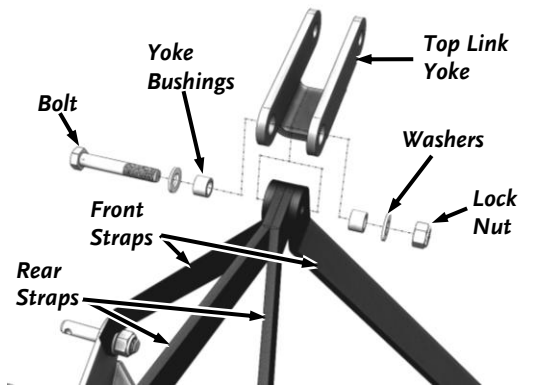

Figure 6
3. Assemble the Top Link Yoke to the Support Straps using a M16 X 100mm Bolt, two M16 Washers, 2 Yoke Bushings, and a M16 Lock Nut as shown in (Figure 6). Tighten the hardware to clamp the Support Straps together using two 24mm Wrenches.